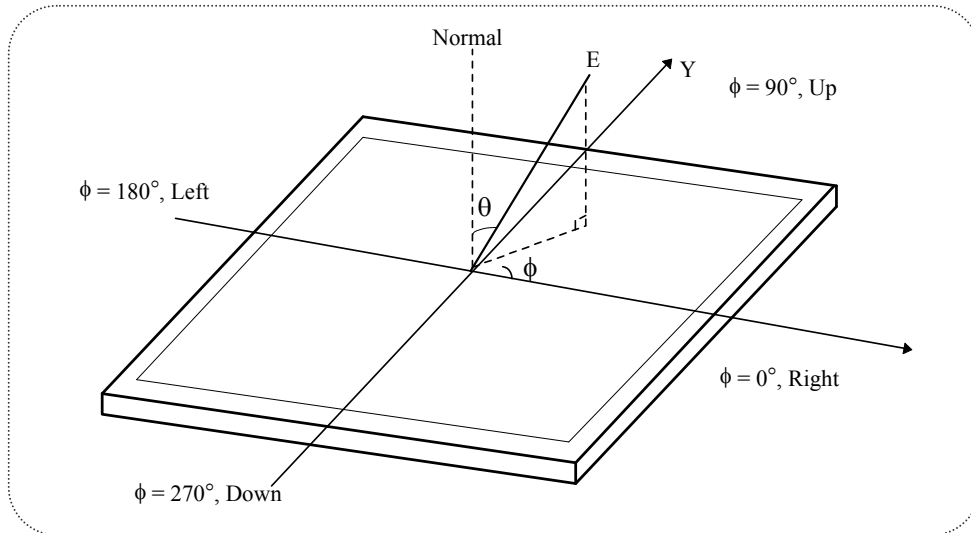

FIG. 6 Viewing angle
7. Viewing angle is the angle at which the contrast ratio is greater than 10. The angles are determined for the horizontal or x axis and the vertical or y axis with respect to the z axis which is normal to the LCD surface. For more information see FIG 6. (By PR880)